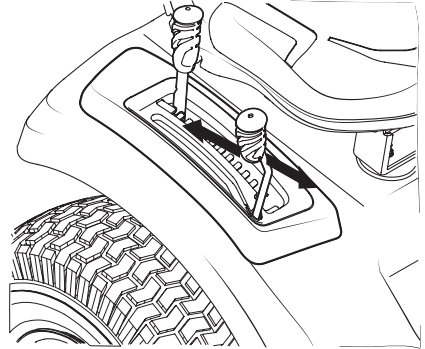

Fig. 30
2. Push the PTO (blade engage) lever forward into the engaged (ON) position (Fig. 30).